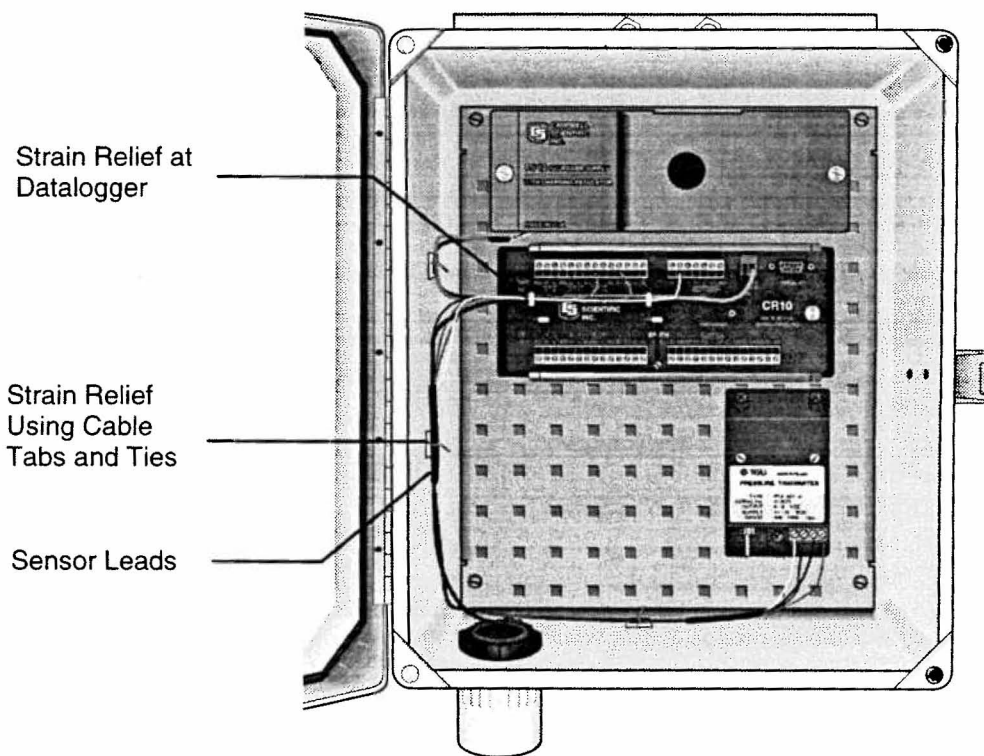

FIGURE 8-1. Routing and Wiring Sensor Leads to the Datalogger
1. After the sensors have been mounted, route the sensor leads through the entry hole in the bottom of the enclosure and to the datalogger. Secure the leads to the left side of the enclosure using cable ties and tabs (Figure 8-1). Any excess cable should be neatly coiled and secured to the tabs.